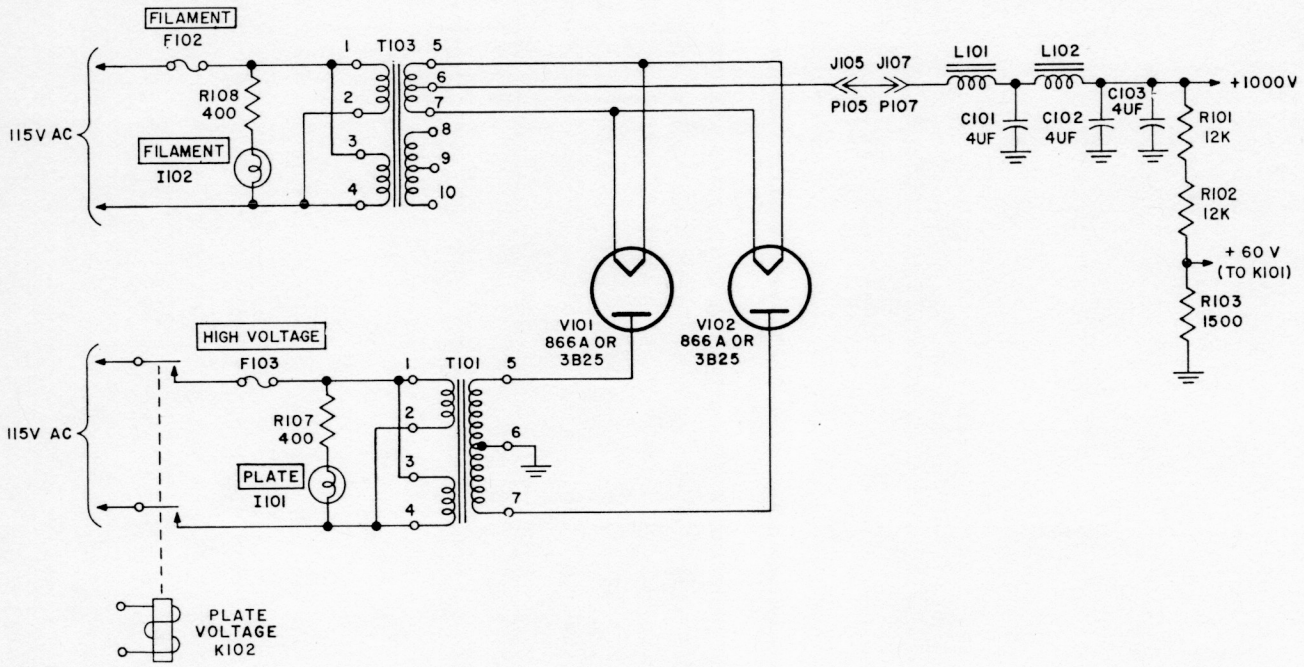

Figure 4-12. High Voltage Supply, Simplified Schematic Diagram
a. HIGH VOLTAGE SUPPLY. - (Refer to figure 4-12.) The high voltage supply consists of a full-wave vacuum tube rectifier, a two-section choke-input filter, and a bleeder network. The rectifier, contained within the Rectifier and Control Unit, uses two 866As connected in a full-wave circuit. The a-c primary power is supplied the rectifier by transformers T101 and T103.